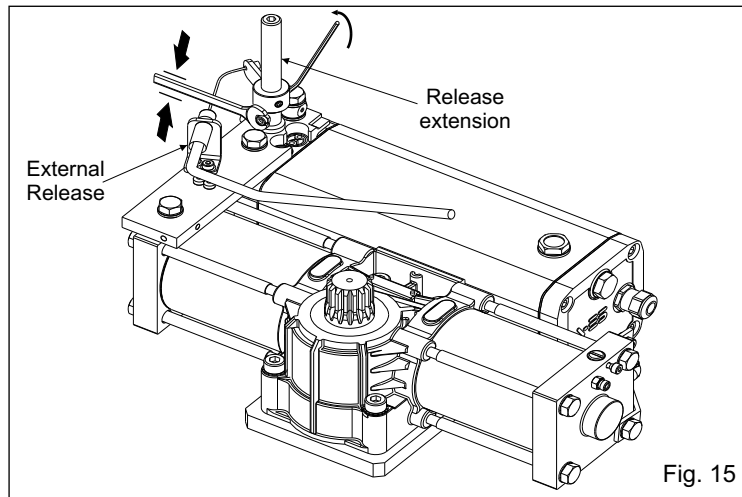

Fig. 15
4.1. Before putting the operator into the carrying box, install the release extension (Fig. 15).
- Being an emergency manoeuvre, the external release has the only function to release, **to relock the operator it is always necessary to use the internal release.** (Fig. 15) ▲